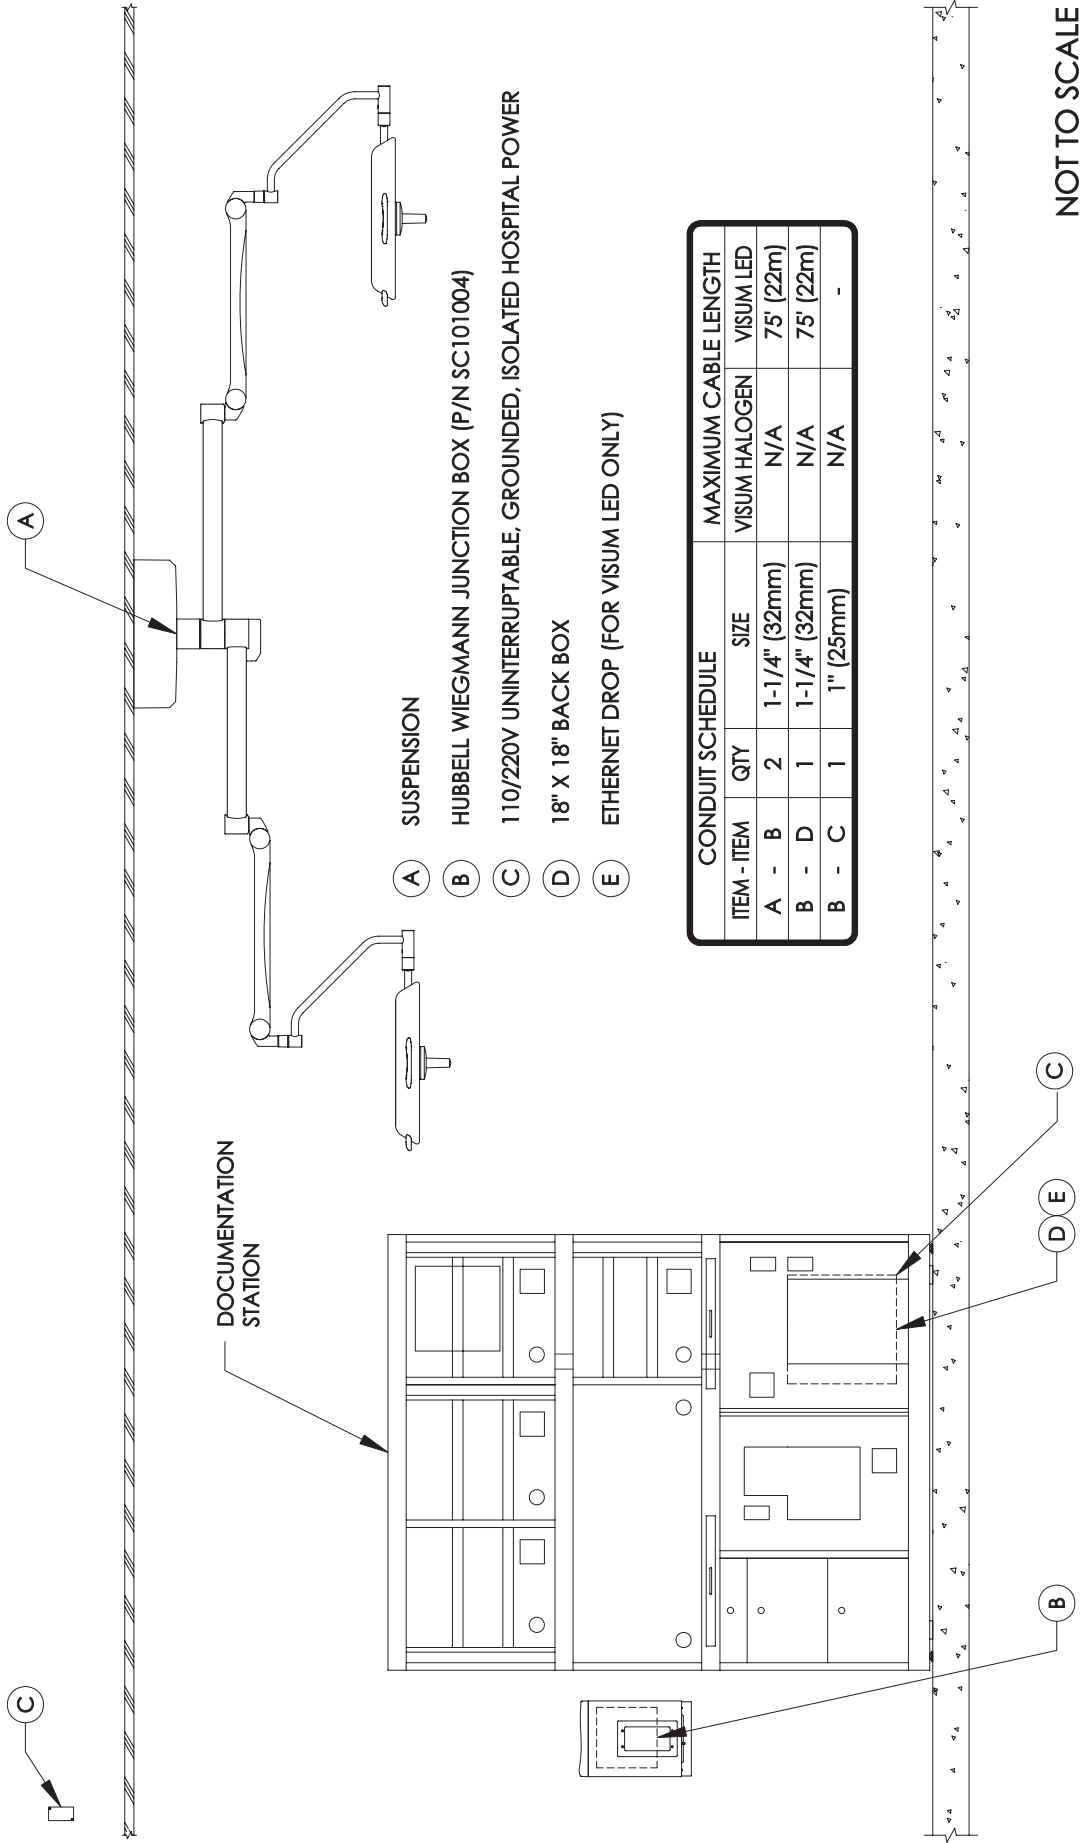

Figure 11: Electrical Installation with Wall-Mounted Power Supply Box & Documentation Station
5. Install the conduits as specified in Figure 11.
**Note** All components must be located so that conduits do not exceed the maximum lengths specified in Figure 11.